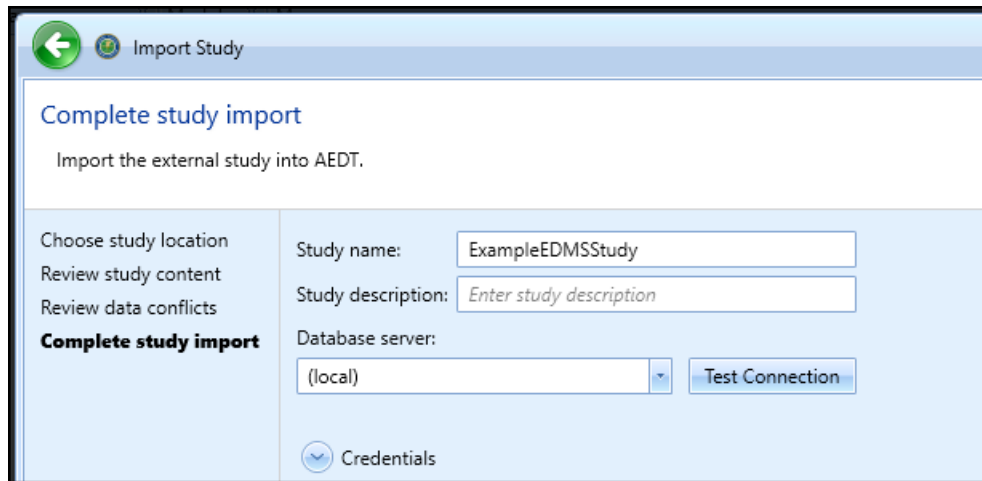

Figure 46. Complete study import
6. In the *Complete study import* step, enter a unique *study name*. (Figure 46)